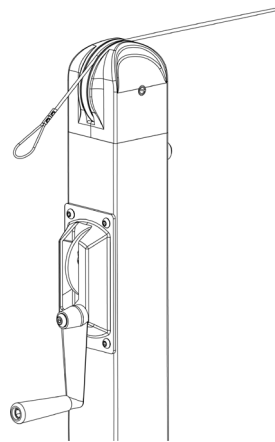

Figure 8
**STEP 7:** Place the other end of the top cord cable over the pulley of Post A and attach the loop around the screw on the crank. Tighten the screw to secure. Rotate the Crank Handle clockwise a few turns to fully tension the net. See Figure 8 & 9. Note: The center of the net should measure 34" from the top to the playing surface.